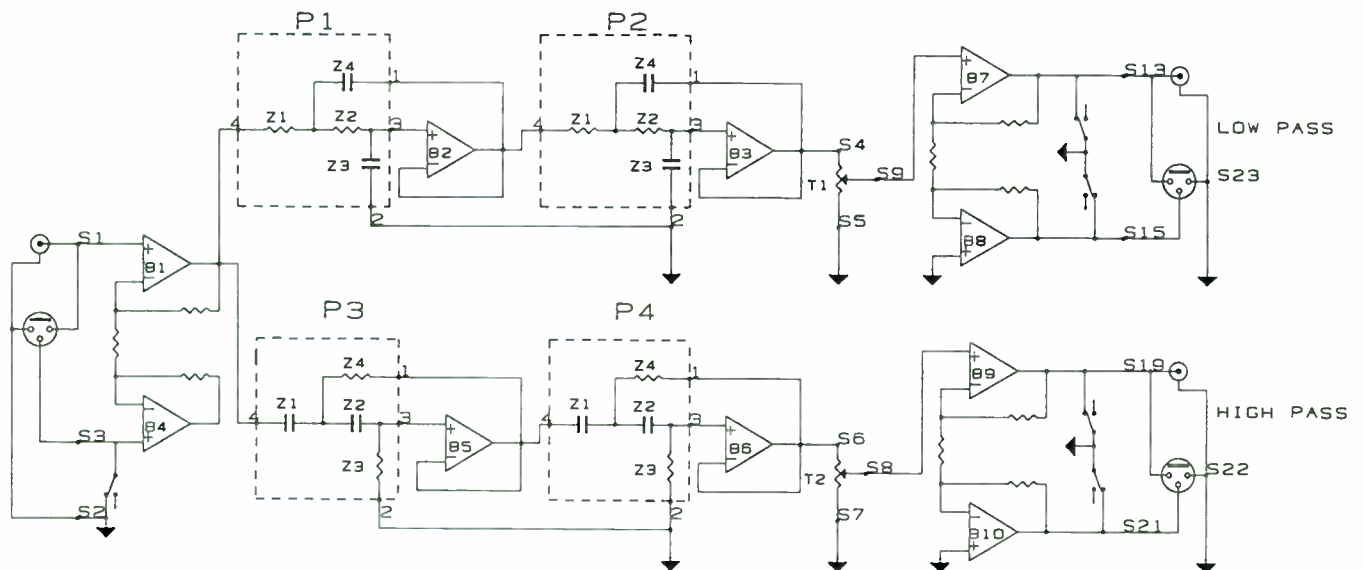

FIGURE 1: Two-way crossover block schematic. Power supply is $\pm 24V$. Switch on mute.
Figure 1 is the block schematic for a two-
We choose a value for $C_0 = 5,600\text{pF}$ and according to (2) $R_0 = 14,210\Omega$. So, we will use P1 (*Fig. 1*) and $Z_2 = R_0 = 14,210\Omega$ (13k + 1k21), $Z_3 = C_0 = 5,600\text{pF}$.
We choose a value for $C_0 = 5,600\text{pF}$ and according to (2) $R_0 = 14,210\Omega$. So we will use P3 (*Fig. 1*) and $Z_2 = C_0 = 5,600\text{pF}$, $Z_3 = R_0 = 14,210\Omega$ (13k+1k21).
Table A gives $m_1 = 0.7071$, $q_1 = 1.4142$. *Figure B2* gives $R_1 = R_0/m_1$, $R_2 = R_0/q_1$. We choose $C_0 = 5,600\text{pF}$, according to equation (2) $R_0 = 14,210\Omega$, $R_1 = 2,0096\Omega$, $R_2 = 10,048\Omega$. We will use P3 (*Fig. 1*) and $Z_1 = Z_2 = C_0 = 5,600\text{pF}$, $Z_3 = R_1 = 20\text{k}$, $Z_4 = R_2 = 10\text{k}$.
Table A gives $m_1 = 0.5$, $m_2 = 1$, $q_1 = 2$. *Fig. B3* gives $R_1 = R_0/m_1$, $R_3 = R_0/m_2$, $R_2 = R_0/q_1$. We choose $C_0 = 6,800\text{pF}$ according to equation (2) $R_0 = 11,702\Omega$, $R_1 = 23,405\Omega$, $R_3 = R_0 = 11,702\Omega$, $R_2 = 5,851\Omega$. P3 and P4 will be needed (*Fig. 1*). P3: $Z_1 = Z_2 = C_0 = 6,800\text{pF}$, $Z_3 = R_1 = 23,405\Omega$ (22k1+1k3), $Z_4 = R_2 = 5,851\Omega$ (5k62+221). P4: $Z_2 = C_0 = 5,600\text{pF}$, $Z_3 = R_3 = 11,702\Omega$ (11k+681).
$= 1.0823, q_2 = 2.6131$. Figure B4 gives $R_1 = R_0/m_1, R_3 = R_0/m_2, R_2 = R_0/q_1, R_4 = R_0/q_2$. We choose $C_0 = 6,800\text{pF}$ according to equation (2) $R_0 = 11,702\Omega, R_1 = 12,668\Omega, R_3 = 30,587\Omega, R_2 = 10,812\Omega, R_4 = 4,478\Omega$. P3 and P4 will be needed (Fig. 1). P3: $Z_1 = Z_2 = C_0 = 6,800\text{pF}, Z_3 = R_1 = 12,668\Omega (12\text{k}1+562), Z_4 = R_2 = 10,812\Omega (10\text{k}+825)$.